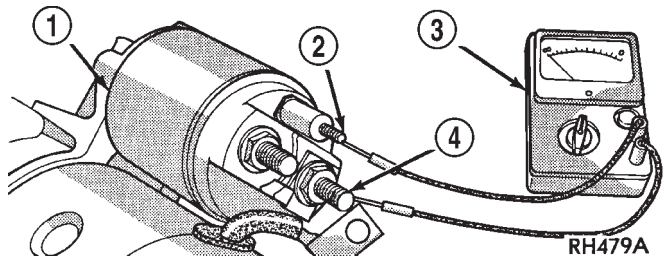

Fig. 11 Continuity Test Between Solenoid Terminal and Field Coil Terminal - Typical
(1) Remove the starter motor from the vehicle. Refer to **Starter Motor** in the index of this service manual for the location of the proper starter motor removal and installation procedures.
(2) Disconnect the wire from the solenoid field coil terminal.
(3) Check for continuity between the solenoid terminal and the solenoid field coil terminal with a continuity tester (Fig. 11). There should be continuity. If OK, go to Step 4. If not OK, replace the faulty starter motor.